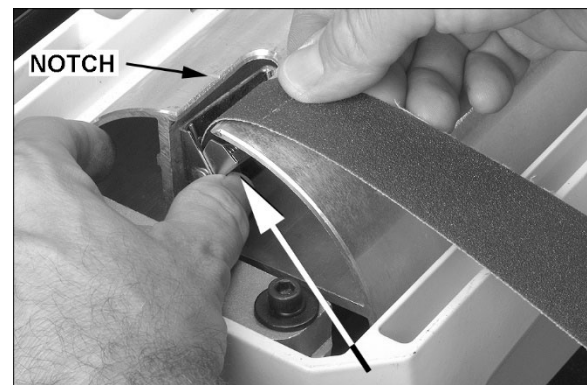

Figure 6-7
1. Press fastener lever (Figure 6-7) on outboard (left) end of drum, and insert tapered end of abrasive through slit in fastener, as shown. Align tapered edge of abrasive strip with left edge of drum. Insert enough strip so that the right edge aligns with the reference notch; this will ensure the proper length of strip to be secured at the opposite end of the drum.